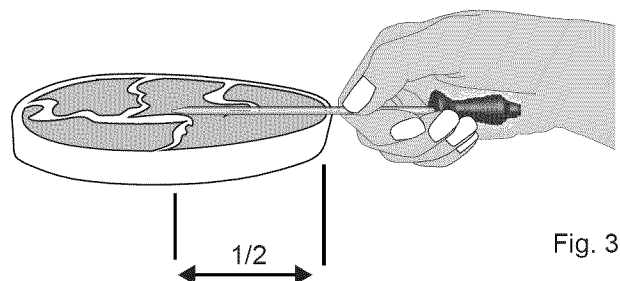

Fig. 3
- For bone-in ham or lamb, insert the probe into the center of the lowest large muscle or joint. For dishes such as meat loaf or casseroles, insert the probe into the center of the food. To find the center of the food visually measure with the probe -*Fig. 3*-. When cooking fish, insert the probe just above the gill.